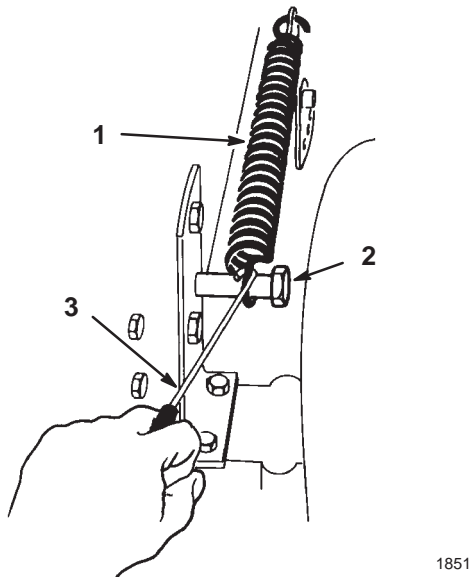

Figure 44
6. Remove the lift assist spring between the mower right side lift bracket and the retaining bolt (Fig. 44).